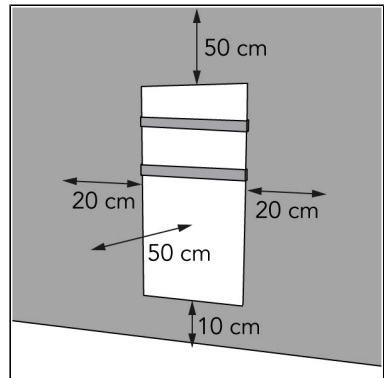

Figure 6.
2. Place the device with a minimum distance (Figure 6) of: